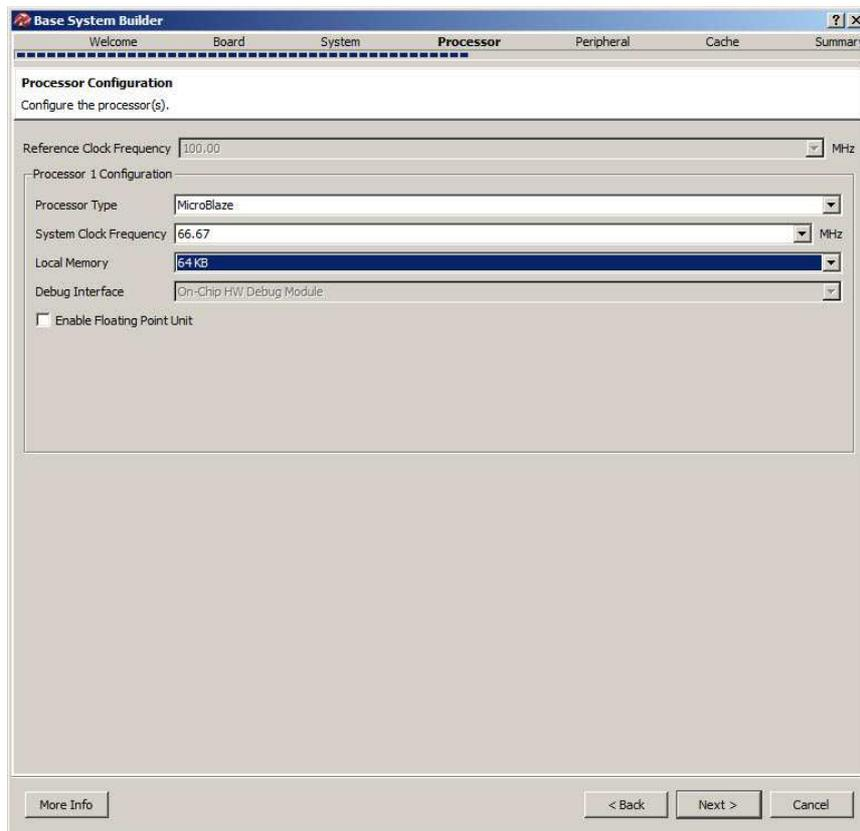

Figure 7. Processor Configuration (Step 7)
When done press “Next” to move to the next screen shown in **Figure 7**.
**Step 7:** The processor configuration screen is shown in **Figure 7**. As stated earlier, Xilinx provides a processor called MicroBlaze that can be implemented on its FPGAs. In this screen we configure the processor as follows: